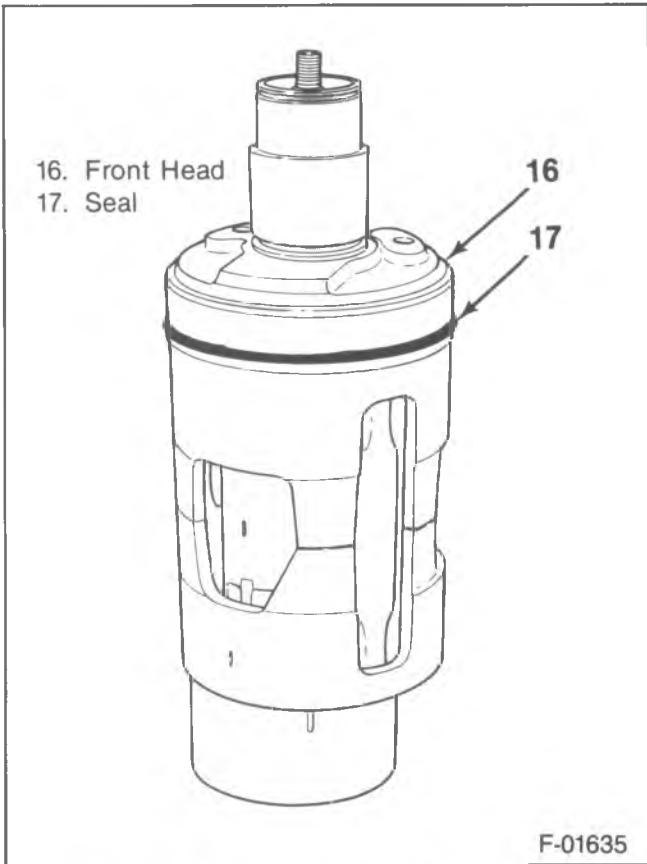
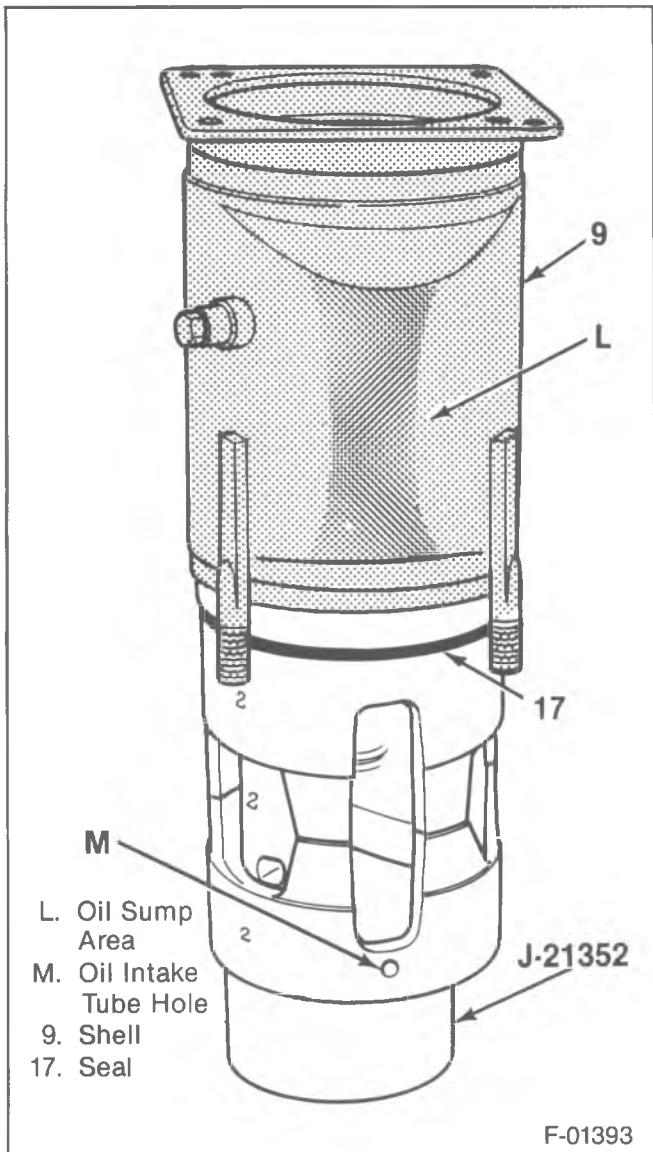
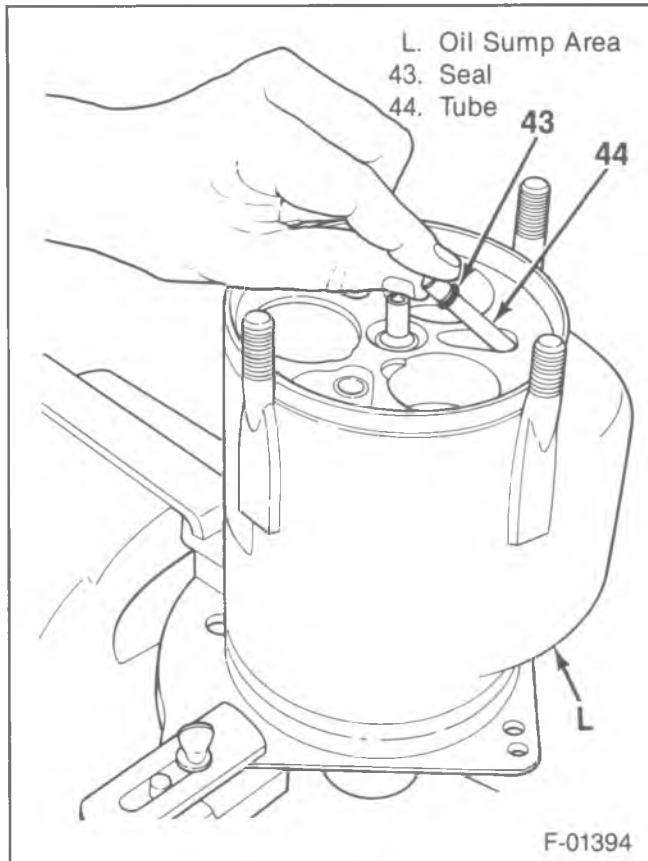

Figure 47—Installing the Front Head Seal
Figure 48—Installing the Compressor Shell
Figure 49—Installing the Oil Pick-Up Tube
14. Seal (17) to the front head (16) (figure 47).
- Lubricate the seal (17) and groove with clean 525 viscosity refrigerant oil.
15. Shell (9) to the internal assembly (figure 48).
- Coat the inside of the shell (9) with clean 525 viscosity refrigerant oil.
- Position the shell (9) on the internal assembly. Rest the shell (9) on the seal.
- With the flat side of a small screwdriver, position the seal (17) in a round, circle shape to the inside of the shell (9).
- Slide the shell (9) down. Line up the oil sump with the oil intake tube hole.
16. New dowel pins (20) to the rear cylinder half.
17. Seal (43) to oil pick-up tube (44).
18. Oil pick-up tube (44) to the compressor (figure 49).
- Lubricate the oil pick-up tube (44) with clean 525 viscosity refrigerant oil.
- Place the oil pick-up tube (44) in the cavity.
- Rotate the compressor assembly to align the tube (44) with the hole in the shell baffle.